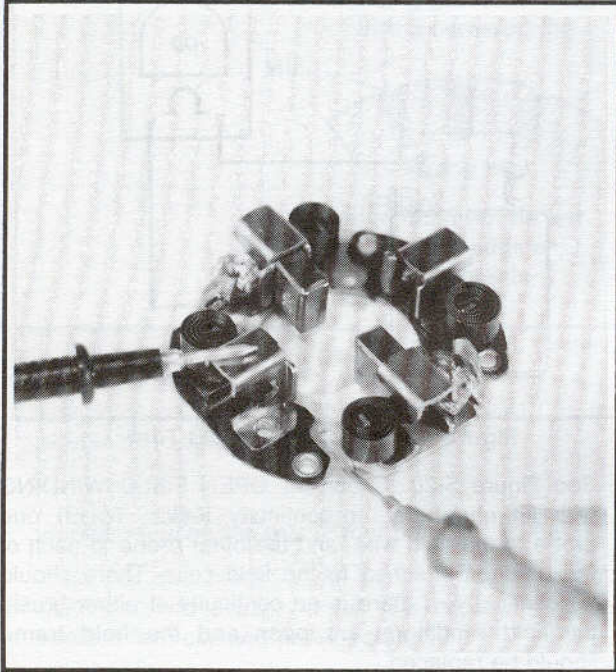

Figure 5-21. Brush Holder Insulation Test
15. See Figure 5-21. Test BRUSH HOLDER INSULATION with an ohmmeter or continuity tester. Touch one probe to holder plate and the other probe to each of the positive (insulated) brush holders. There should be no continuity (infinite ohms). If there is continuity at either brush holder, the brush holder assembly should be replaced. Touch one probe to the non-insulated brush holders and the other probe to the holder plate. If you measure any resistance, the brush holder must be replaced.